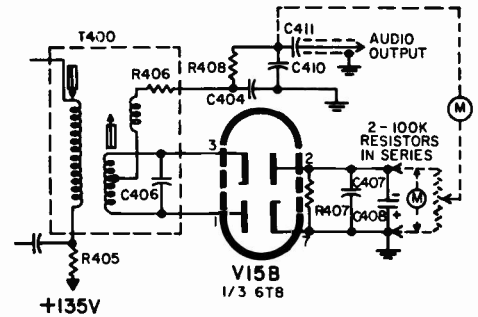

Fig. 12. Audio alignment connection
3. Connect two matched 100,000 ohm resistors in series between Pin 2 of V15B (6T8) and the chassis as shown in Figure 12.